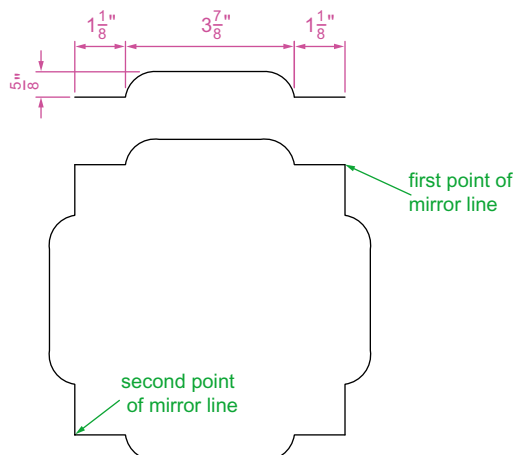

Fig. 5.10 Second example – Mirror
Second example – Mirror (Fig. 5.10)
1. Construct the outline shown in the dimensioned polyline in the upper drawing of Fig. 5.10.
2. Call **Mirror** and using the tool three times complete the given outline. The two points shown in Fig. 5.10 are to mirror the right-hand side of the outline.